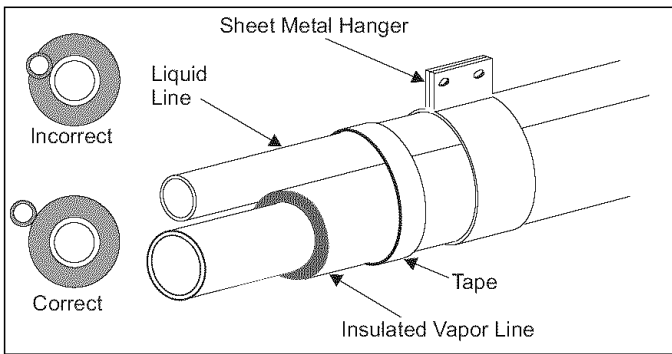

FIGURE 5: Installation of Vapor Line
- d. Liquid lines should not be in bare contact with suction line. See Figure 5.